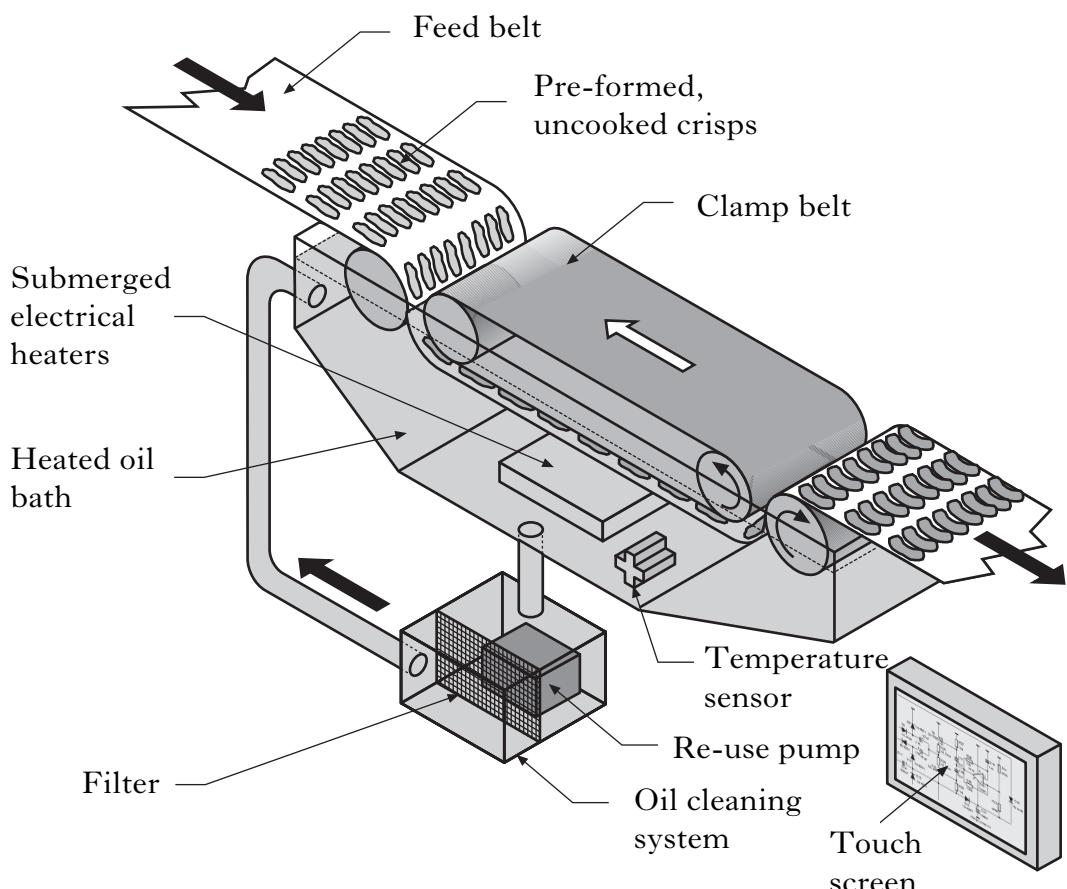

Figure Q12
12. Figure Q12 shows a schematic diagram of a crisp fryer unit used as part of a continuous manufacturing line.